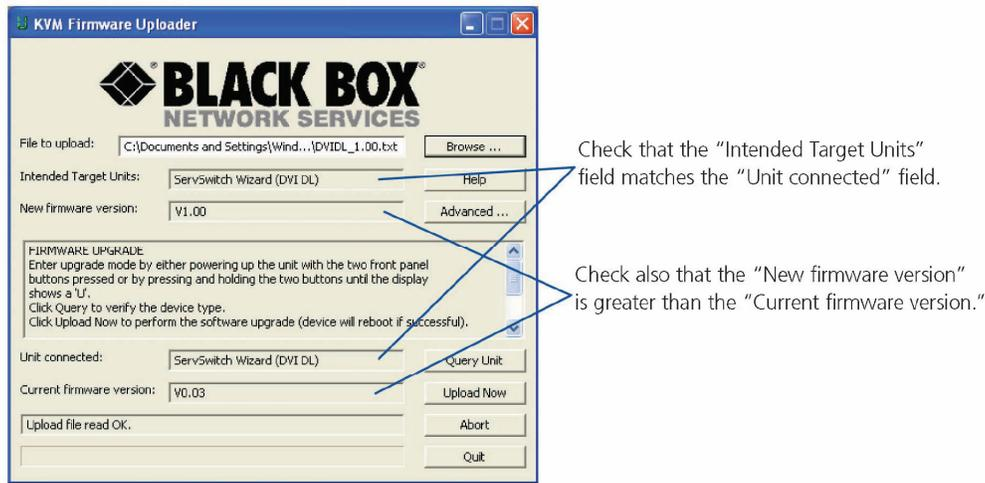

FIGURE 4-2. SELECTING THE UPGRADE FILE FROM THE KVM FIRMWARE UPLOADER WINDOW
**IMPORTANT:** Check that the “Intended Target Units” field matches the “Unit connected” field. If these fields do not match, then you may have an incorrect upgrade file, and you should check with Black Box Technical Support before proceeding. Check also that the “New firmware version” is greater than the “Current firmware version.” See Figure 4-2.